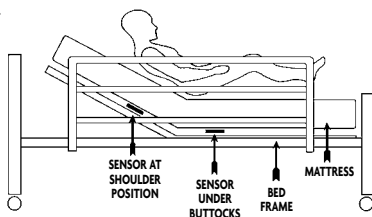
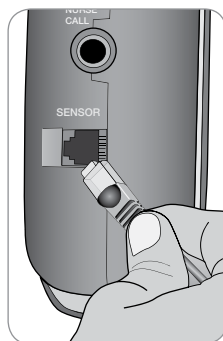

Fig. 33
Fig. 34
3. Place sensor under mattress and directly on top of bed frame. Choose one of two positions (depending on protocol and facility policy) (fig. 33):
- (A) Centered at patient's shoulder blades; or
- (B) Centered under patient's buttocks.
6. Insert RJ11 plug into jack labeled "sensor" on right side of alarm (fig. 34). Alarm will activate. Press the HOLD button. You have 30 seconds to transfer the patient to the bed before monitoring begins (see instructions on page 15 for use of the HOLD button).